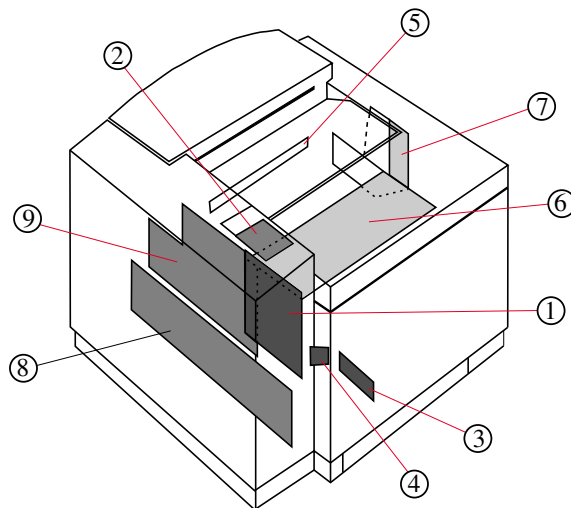

Fig. 4-29
4.6.1.2.1 Print P.W.B. (see Fig. 4-29)